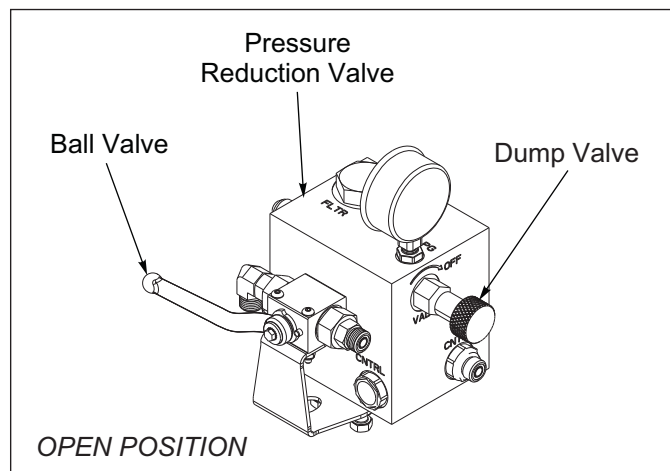

Figure 4-5: Pressure Reduction Valve Manifold
The Ball Valve between the Pressure Reduction Valve Manifold and the machine system needs to be turned "OFF" during field operation (handle upright). The Ball Valve should only be opened to 1.) check the system operating pressure present, and 2.) adjust the system pressure if it is too high or too low (below 2,000 psi). *See Figure 4-5.*
1. Connect the pressure and return hydraulic lines connected to the Pressure Reduction Valve Manifold, to the tractor. *See Figure 4-5.*